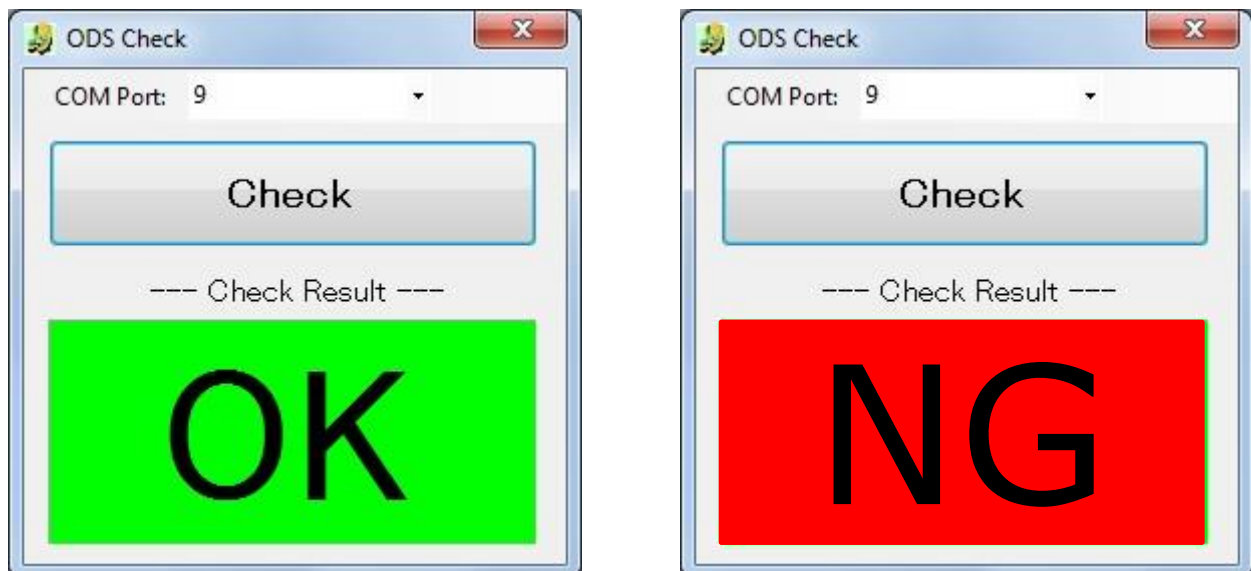

Figure 4
- Results will indicate **OK** or **NG** as shown in *Figure 4*.
11. According to the **---Check Result---** section (*Figure 4*) do one of the following: